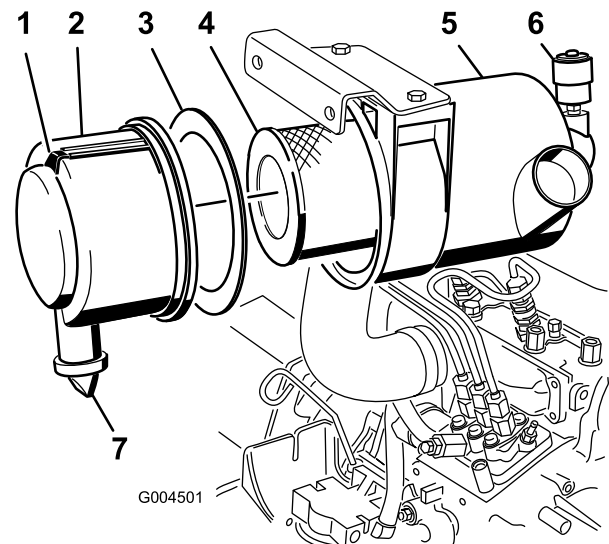

Figure 64
- Service the air cleaner filter when the air cleaner indicator (Figure 64) shows red or every 400 hours (more frequently in extremely dusty or dirty conditions). Do not over service the air filter.
- Pull the latch outward and rotate the air-cleaner cover counter-clockwise (Figure 64).
- Remove the cover from the air-cleaner body (Figure 64).
4. Remove and replace the primary filter (Figure 64).
6. Ensure that the foam gasket is in place in the cover and that it is not torn or damaged (Figure 64).
- A. Remove the rubber outlet valve from the cover (Figure 64).
10. Reset the indicator (Figure 64) if showing red.